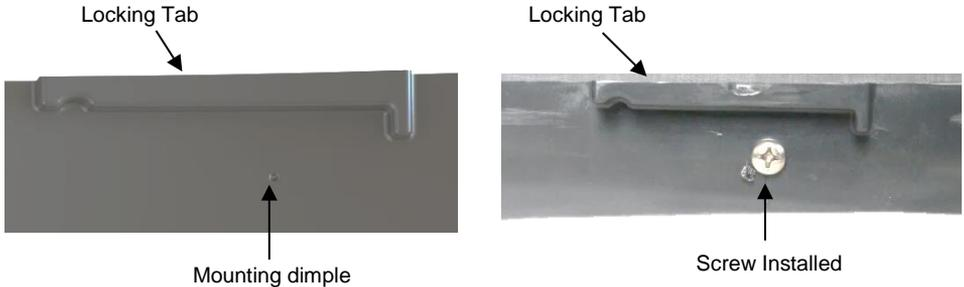

Figure 6: Screw Install
- 5.) Locate the four (4) mounting dimples on the inside perimeter of the connector flange (Fig.6). Install four (4) screws into mounting dimples to attach the connector flange to the riser pipe. Drive the screws until the head makes contact with the connector flange & slightly compresses the flange. A 1/2" gap should be present between the connector & pipe.